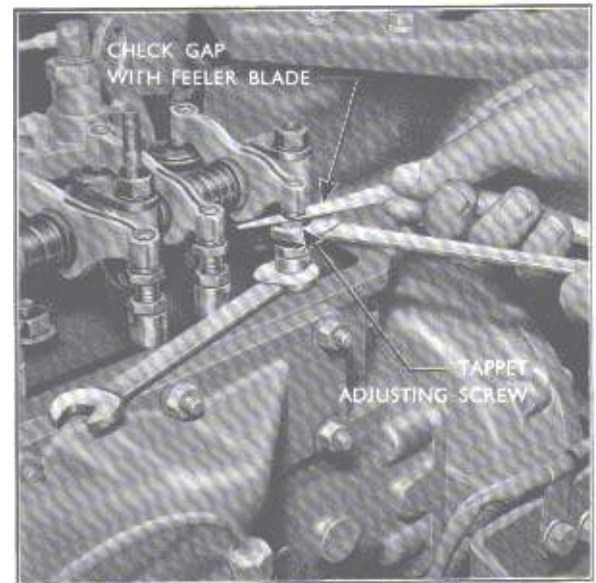

Fig. 3
6. Check the valve clearance on Nos. 1, 2, 3 and 5 valves (numbered from front to rear) using a 0.012 in. (0.25 mm.) feeler gauge, inserted between the end of the rocker lever and the top of the tappet adjusting screw. If necessary adjust the clearances as shown on Fig. 3. After adjustment, fully tighten the tappet adjusting screw locknut.